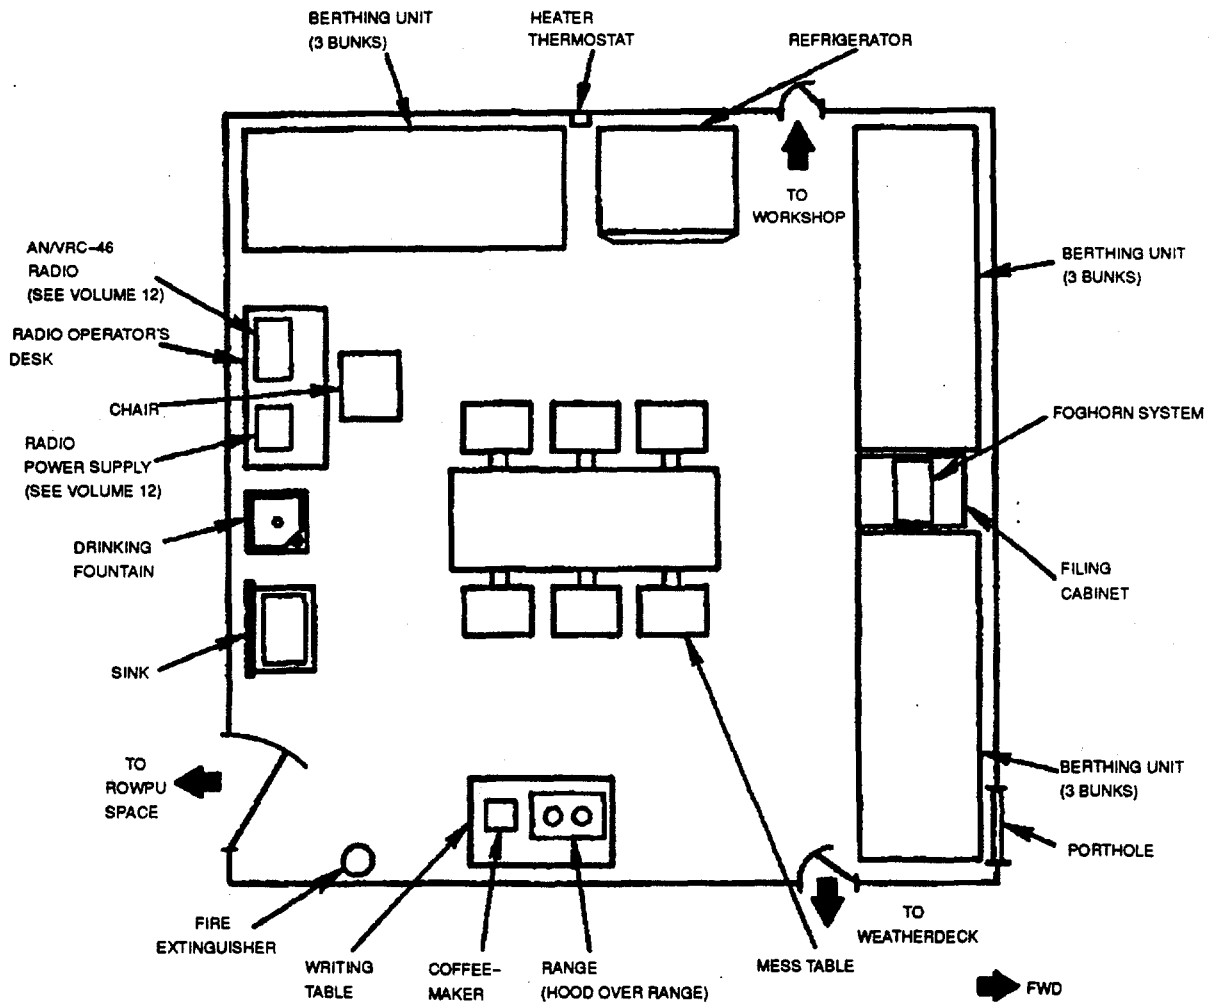

Figure 15-1. Dayroom Arrangement
**15-3.1 Dayroom Equipment.** This equipment includes a drinking fountain, hotplate, coffee maker, refrigerator, range hood three berthing units with three bunks each, filing cabinet, mess table with six seats, writing table, sink, and radio operator's desk and chair (See Figure 15-1).